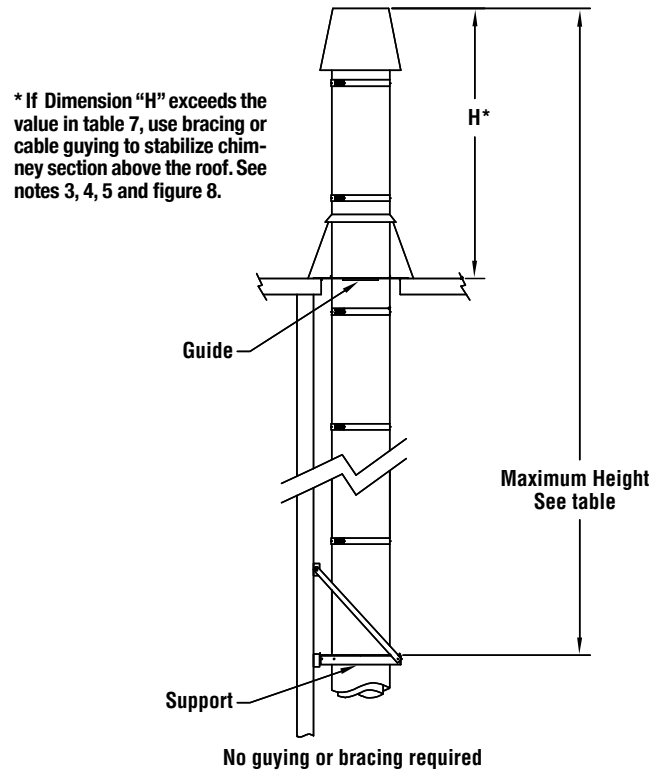

Figure 7 - Maximum freestanding chimney height
2. If the stack above the roof does not exceed dimension H, no special guying or bracing is required. However, to protect the flashing from lateral movement, a guide must be installed at the roof level. See **figure 7**).